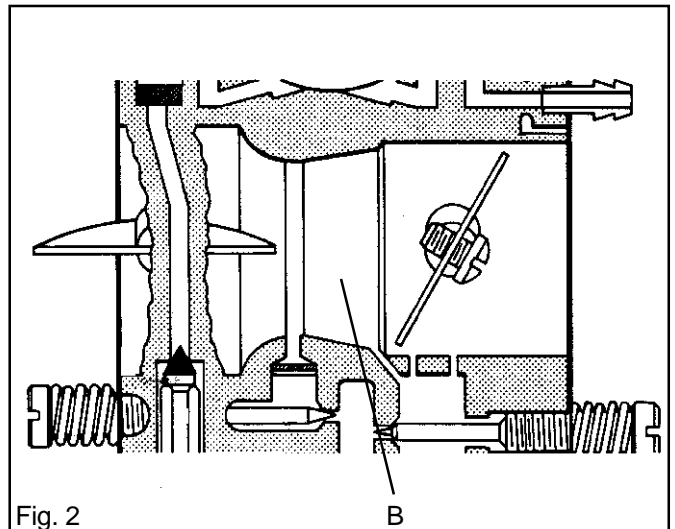

Fig. 2
6. Fit the oil pump into the crankcase. Tighten the bolts to 5 Nm. See fig. 2.
7. Locate the oil pipe and seals. See fig. 2.
- Mixing venturi, B in fig 2.